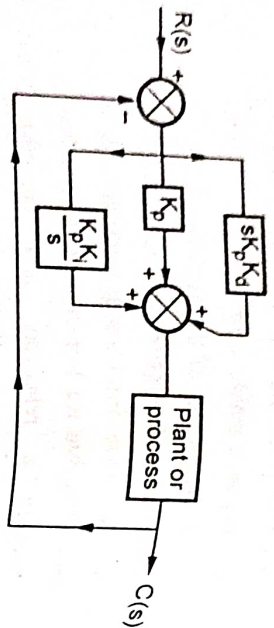

Fig. Q.8.1
• The Fig. Q.8.1 shows the block diagram of PID controller.